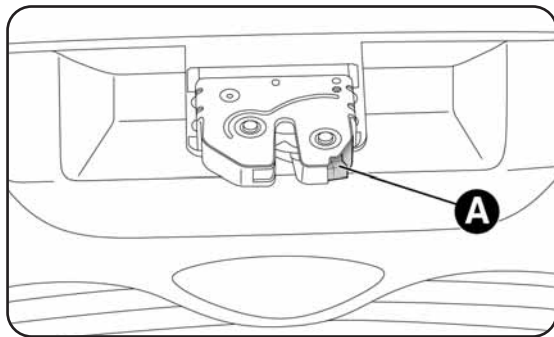

fig. 57
**OUVERTURE D'URGENCE DU HAYON fig. 57**